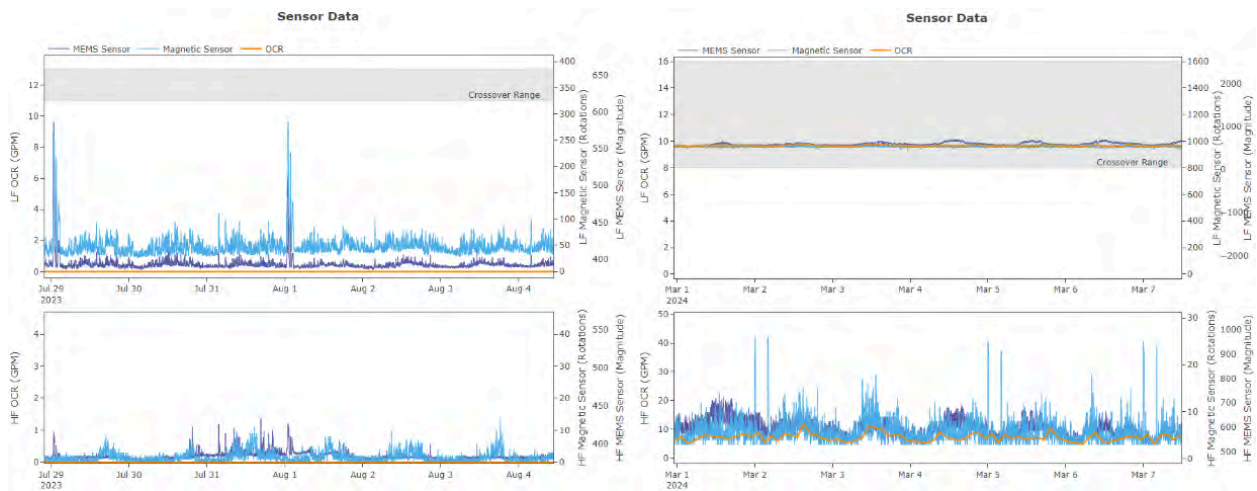

Figure 36 - Pre and post meter repair comparison
- The low flow side meter is now recording approximately 10 GPM of continuous flow, and the high flow side meter is recording approximately 10 GPM of continuous flow. Previous to the meter replacement, both low and high flow side meters were recording 0 GPM of flow (Figure 36).